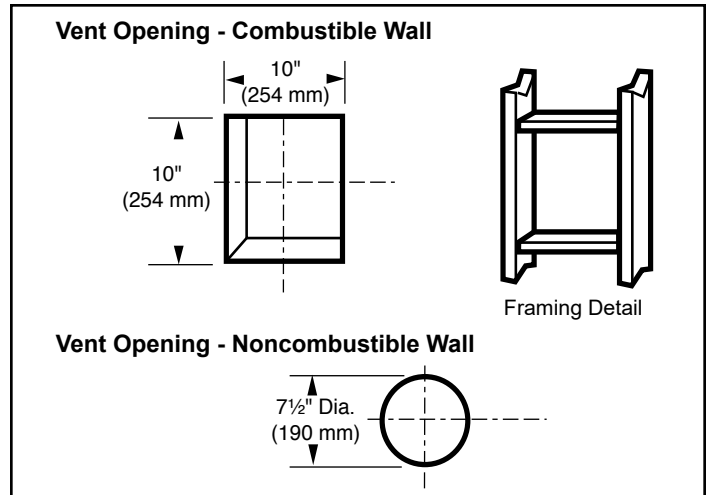

Figure 3.10 - Locate vent opening. **NOTE: Zero clearance sleeve is required for combustible wall installations.**
1. Locate vent opening on the wall. It may be necessary to first position the stove and measure to obtain hole location. Depending on whether the wall is combustible or noncombustible, cut opening to size, Figure 3.10 (For combustible walls first frame in opening.) Combustible Walls: Cut a 10" H x 10" W (254 x 254 mm) hole through the exterior wall and frame as shown, Figure 3.0. Noncombustible Walls: Hole opening must be 7-1/2" (191 mm) in diameter.